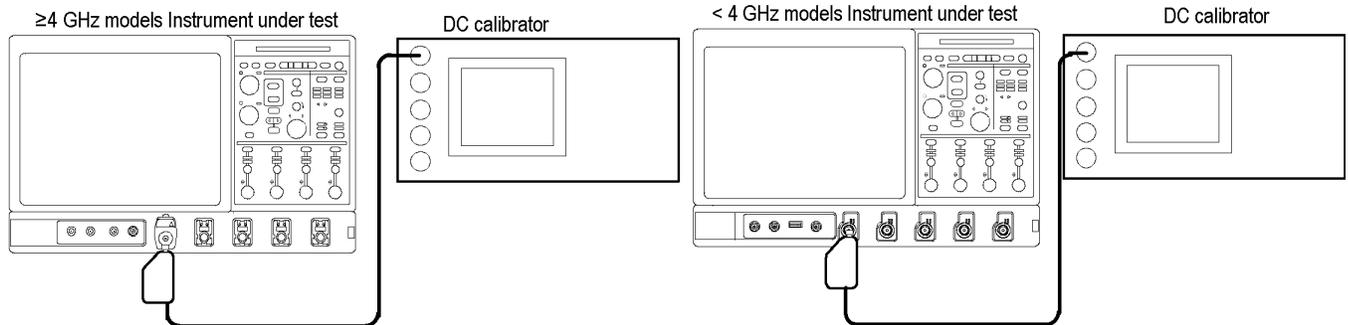

Figure 10: DC voltage accuracy test hookup DPO7000C, MSO/DPO70000C models
- Connect the output of a DC calibration generator. (See Figure 10 on page 231.)